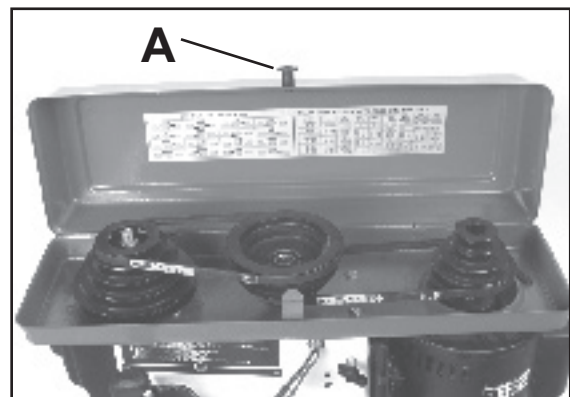

Figure 9
5. Install the small, belt cover Handle Knob onto the right side of the top lid (A-Fig. 9). Open the belt cover and insert the Phillips head screw through the hole in the lid from the inside. Thread the handle on the outside of the belt cover and tighten it in place with a screw-driver.
6. Install the idler pulley and drive belts. Simply slide the pivot post of the idler pulley into the corresponding hole in the drill press head as shown. The small drive belt (M24) is mounted to the *spindle* pulley and the large drive belt (M25) is mounted to the *motor* pulley. Fig. 9.